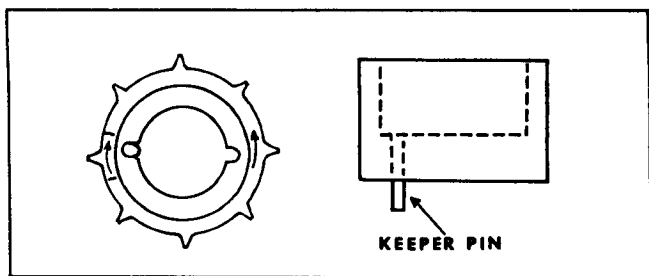

FIG. 20-RELUCTOR KEEPER PIN
5. Mount the pin in the hole which points in the proper direction of rotation. See Fig. 20